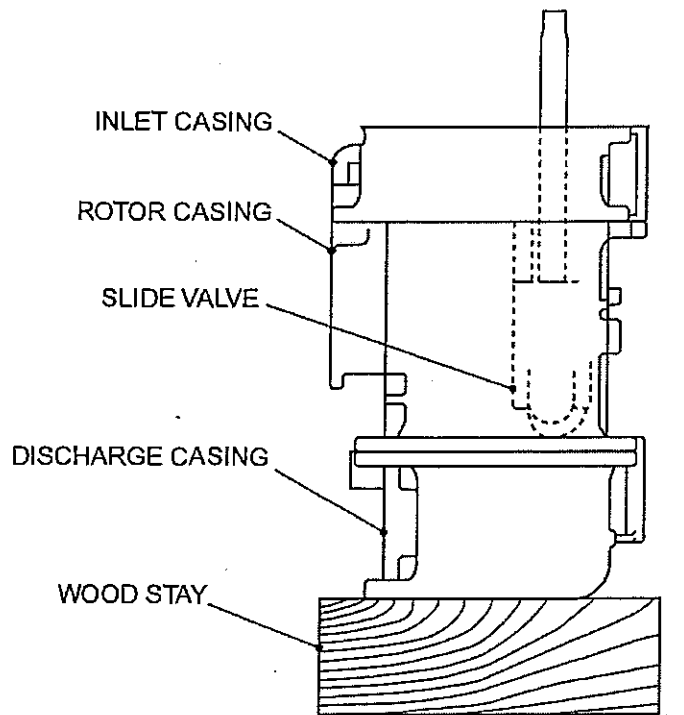

Fig. 4-1
- (27) Remove Adjusting Plate (C09), (C10).
- (28) Erect the compressor vertically with Inlet Casing (B01) upper side. (Refer to Fig.4-1)